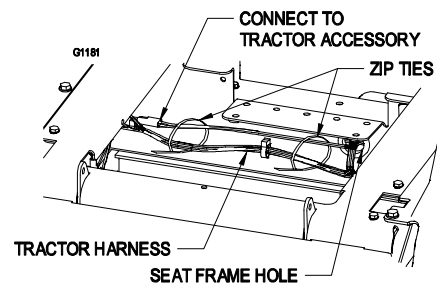

FIGURE 5
1. Remove the plug from the molded accessory connector located on the right side of the main tractor harness inside the seat box frame as shown in Figure 5.
2. Route bottom light kit harness connector through the seat frame hole and connect to the molded accessory connector on main tractor harness. Zip tie the light kit harness to the tractor harness where shown in Figure 5.